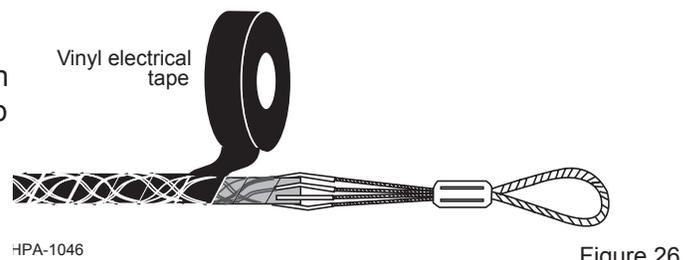

Figure 26
**5.17** Starting at least 2.5 cm (1.0 in.) below the mesh on the cable jacket, wrap vinyl tape TIGHTLY to the top of the grip. The mesh's imprint should show clearly through the tape (Figure 26). The tape must be tight because it helps compress the mesh against the cable core. Tug on the grip slightly to tighten it.